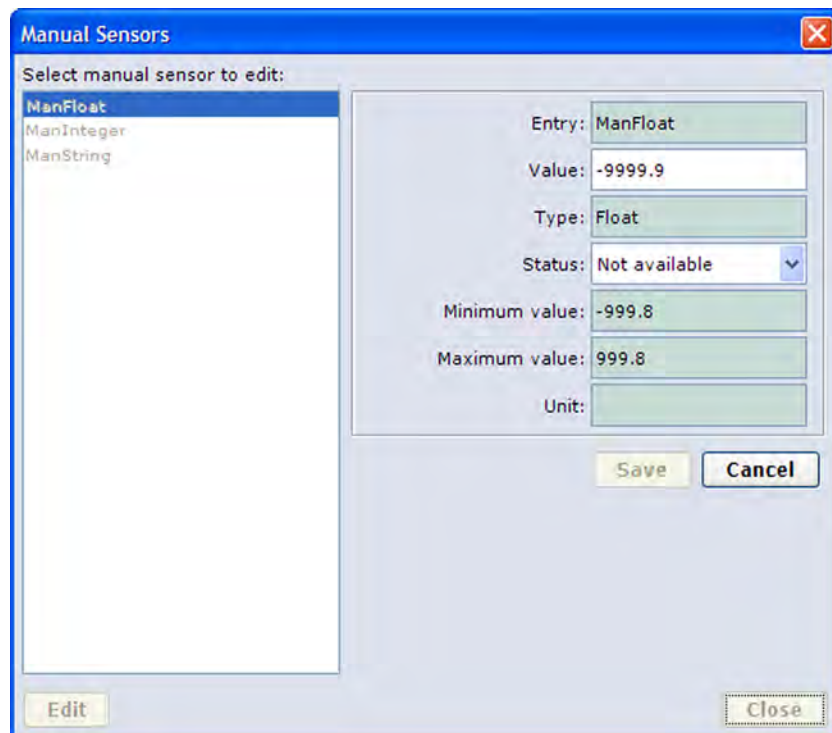

Figure 40 Entering Values for Manual Sensor
3. Select **Edit**. The information on the sensor is displayed (see Figure 40 on page 78).